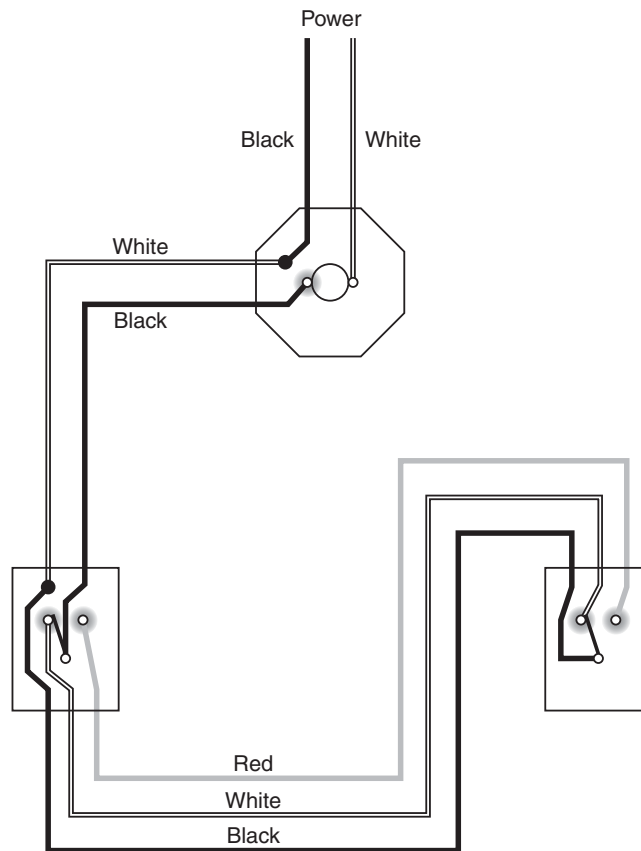

Figure 8-22 Connecting the travelers.
4. *Connect the travelers.* The red and white wires of the three-conductor cable are used to connect the traveler terminals of the two switches (Figure 8-22). The white switch leg wire should be reidentified with colored tape or paint at each location.